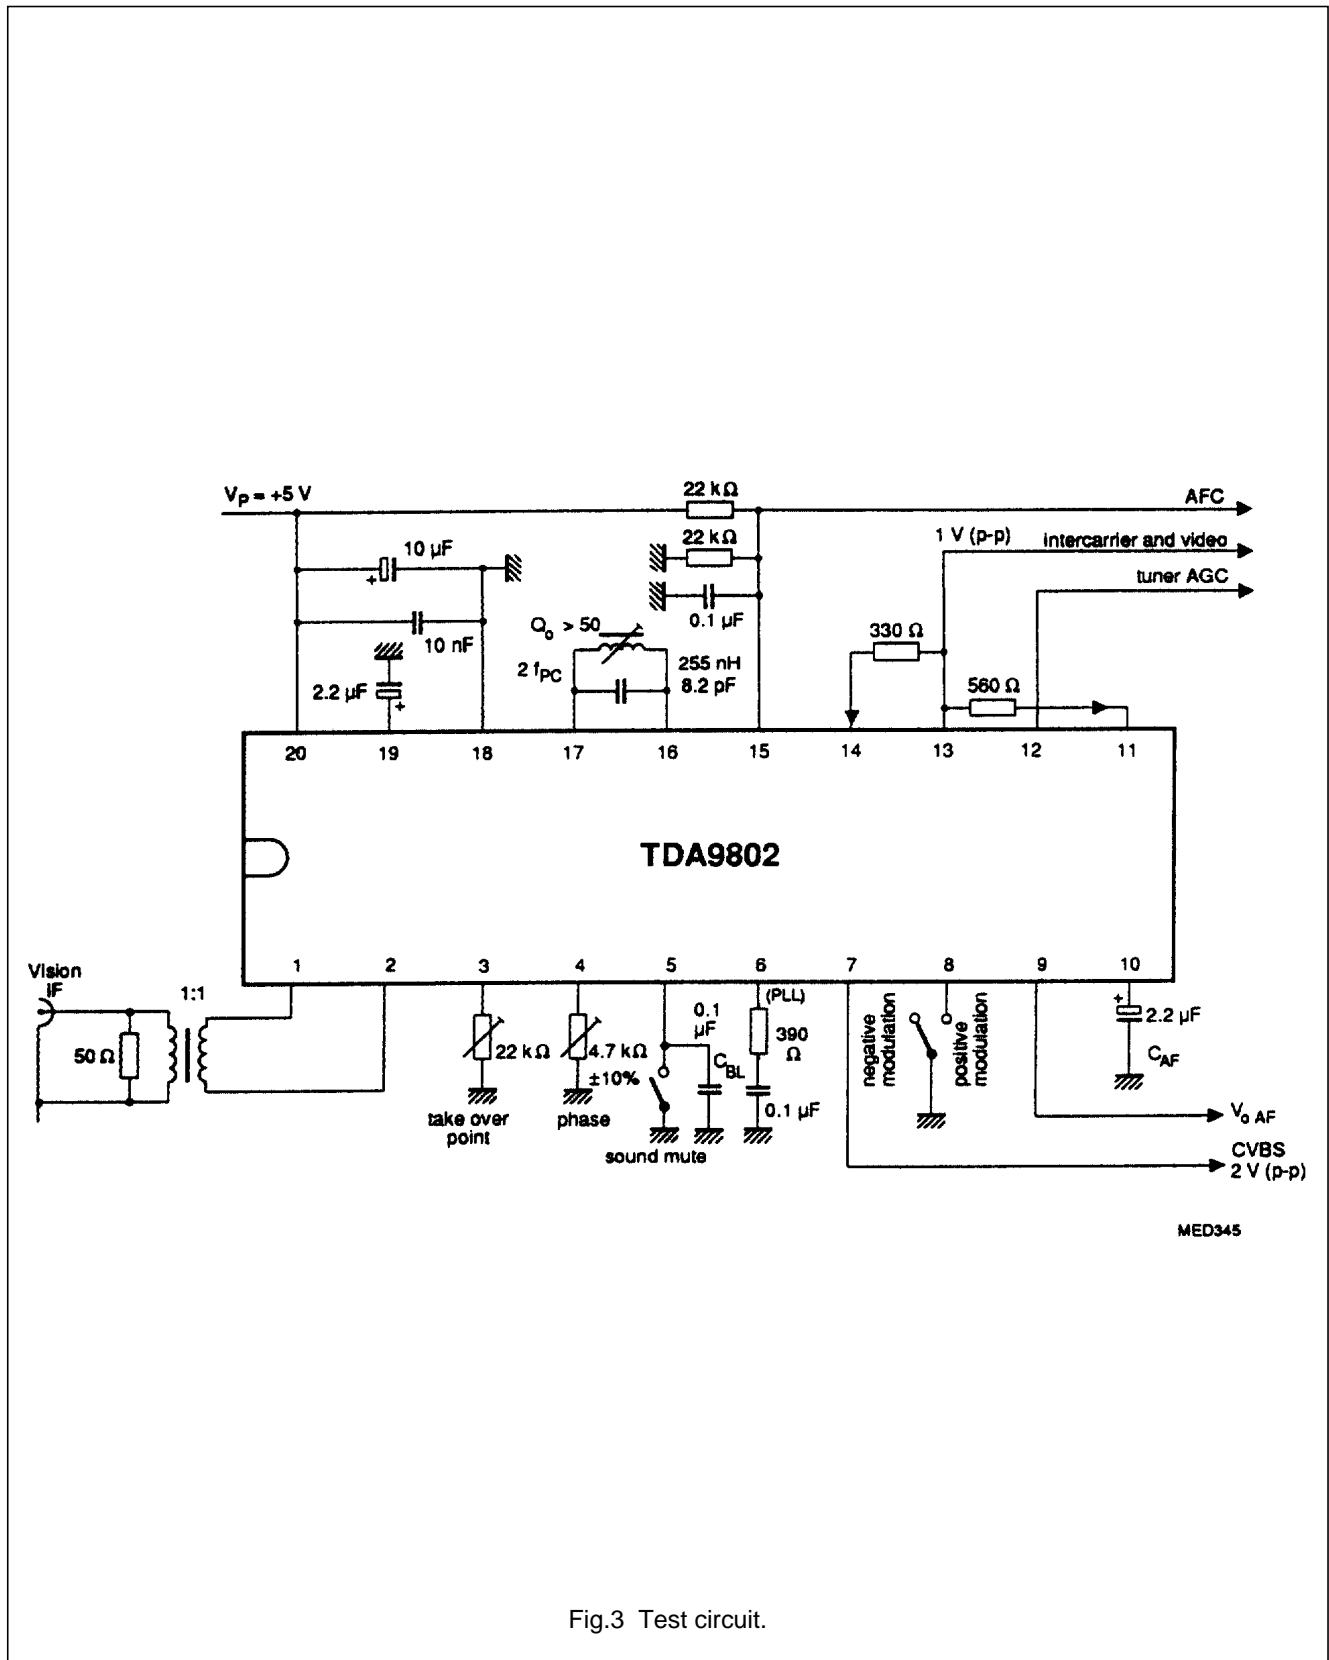

Fig.3 Test circuit.
- Transformer at IF input (Fig.3). The C/N ratio at IF input for 'lock-in' is defined as the vision IF input signal (sync level, RMS value) in relation to a superimposed, 5 MHz band-limited white noise signal (RMS value); video modulation: white picture.